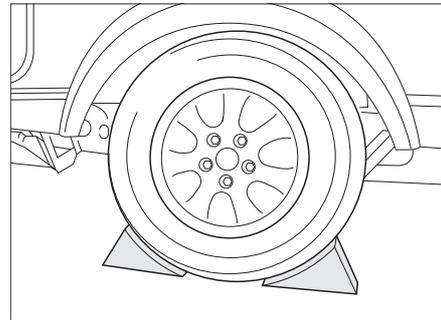

Fig. 187 Securing vehicle
- Place chocks or other appropriate objects beneath the opposite wheel of the vehicle to secure it (Fig. 187).